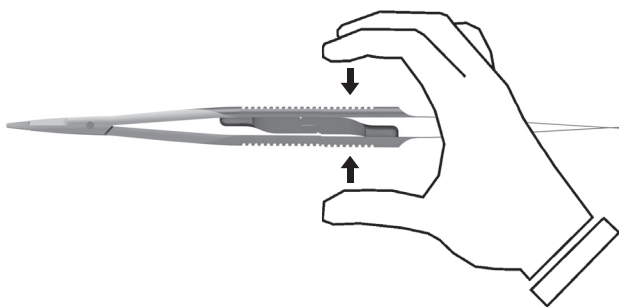

Fig. 2
- Press the handle parts until the lock engages perceptibly (see fig. 2).
- Open the instrument with spring handle as shown in fig 2 and 3.
- Check if the lock mechanisms work (see fig. 2).